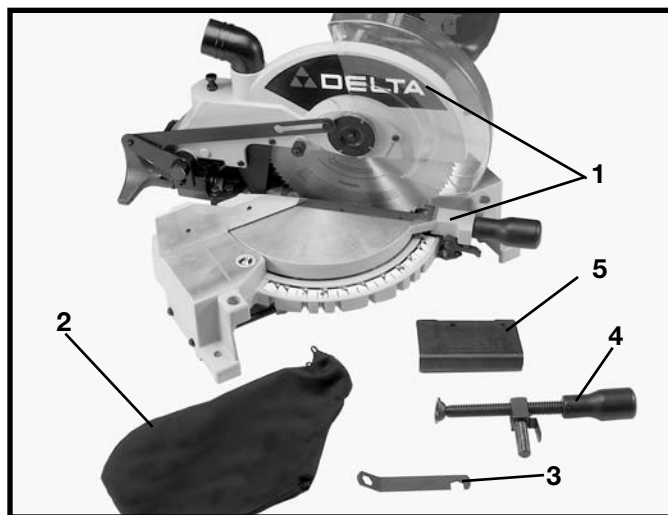
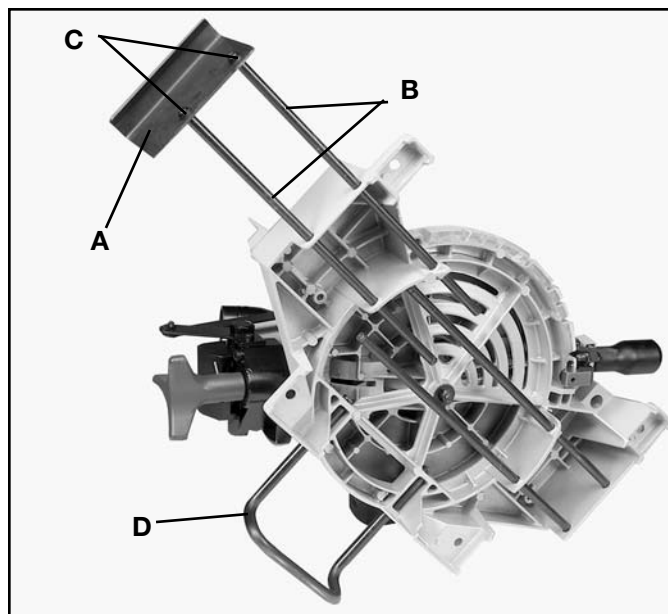

Fig. 2
Fig. 4A
1. Remove the miter saw and all loose items from the carton. **IMPORTANT: DO NOT LIFT THE MITER SAW BY THE SWITCH HANDLE AS THIS MAY CAUSE MISALIGNMENT. ALWAYS LIFT THE MACHINE BY THE BASE OR CARRYING HANDLE (see (D) Fig. 4A.** Fig. 2 illustrates the machine and all loose items after they have been removed from the carton.
- 5 - Table Extension (2)
Remove two screws from each extension rods. Assemble ends of table extension (A) Fig. 4A, onto the extension rods (B) as shown. Tighten screws (C) to hold table extension in place.